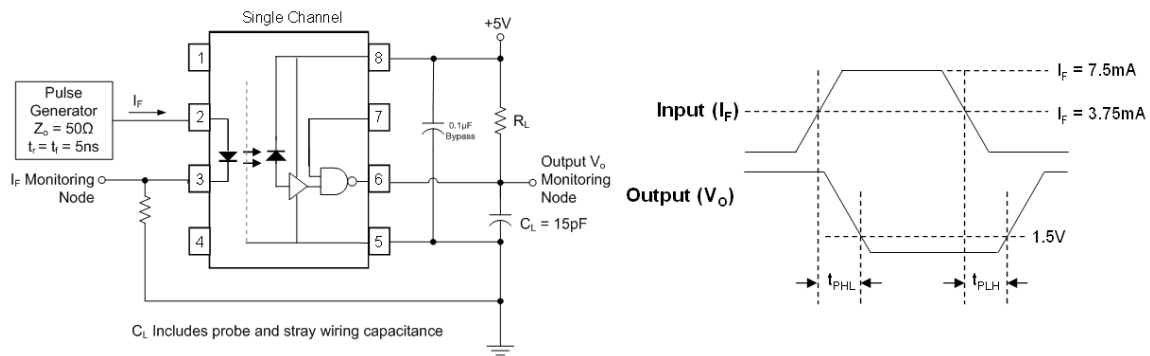

Figure 1: Single Channel Test Circuit for t_{PHL} and t_{PLH}
1. A 0.1 μF or bigger bypass capacitor for V_{CC} is needed as shown in Fig.1